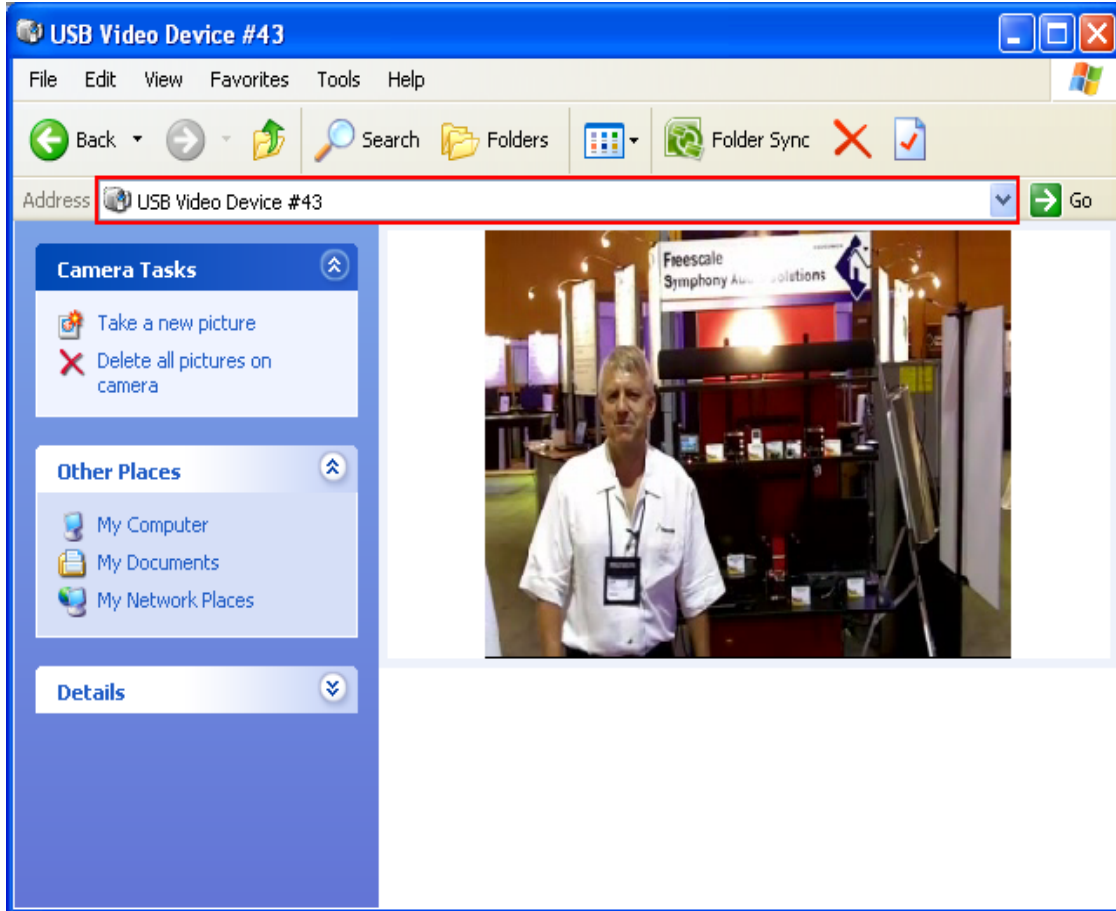

Figure J-6. Video is displayed
- By Double-clicking on the USB Video Device icon, video is displayed as shown as shown in Figure J-6